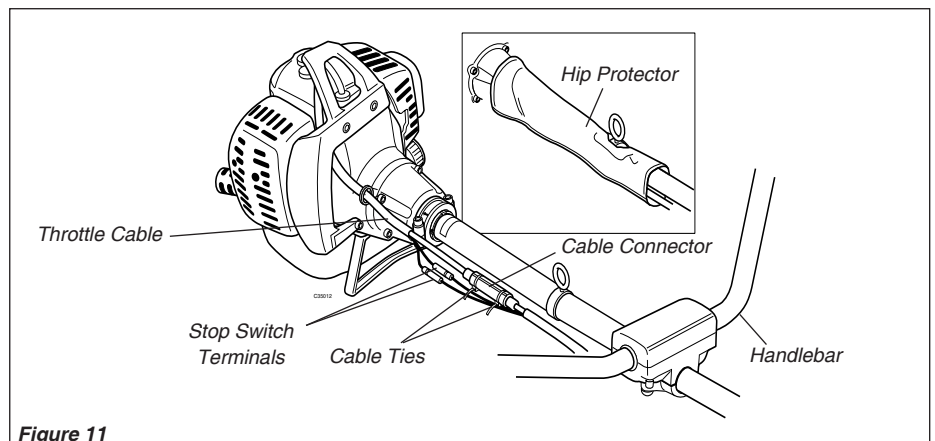

Figure 11
7. Secure each end of the throttle connector with a cable tie. See Figure 11.
8. Install the hip protector on the outer tube. See inset of Figure 11.